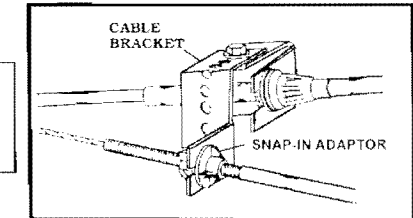
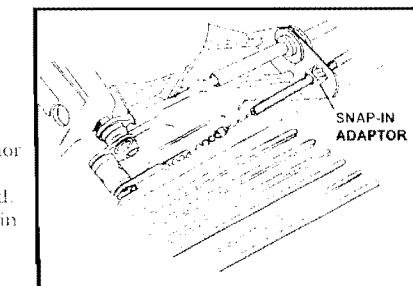

Figure 22
Figure 23
3. The SNAP-IN ADAPTOR snaps into the square hole of the CABLE BRACKET **Figure 22** or snaps into an existing square hole on the vehicle (common on GM™ vehicles). **Figure 23**